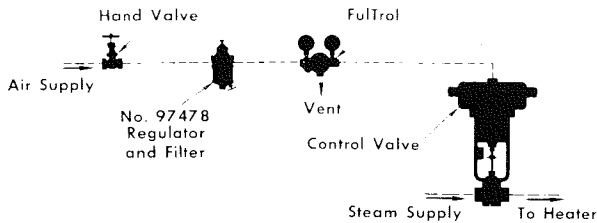

Figure 2, HEATING — Using reverse-acting type FulTrol and reverse-acting control valve.
The standard FulTrol is calibrated and set for supply pressure of 20 psi; however, the instrument will operate satisfactorily with supply pressures up to a maximum of 40 psig. Unless **FILTERED** supply at **CONSTANT** pressure is already available, use combination Filter-Dripwell Reducing Valve No. 97478 as shown in Figures 2 through 4.
Connect output pressure side (O) to the Final Control Element (control valve, etc.). See Figures 2 through 4.